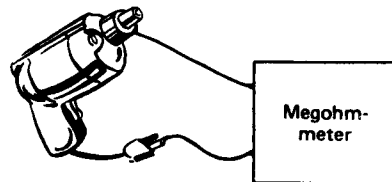

Figure 3
*Example:* An insulation has a resistance of 100 megohms at 30°C. From Fig. 3,  $K_{t40c}$  is 0.5
This test would also apply to other similar equipment that has a line cord. For double-insulated power tools, the megohmmeter lead shown connected to the housing would be connected to some metal part of the tool (e.g. chuck, blade). See Fig. 3